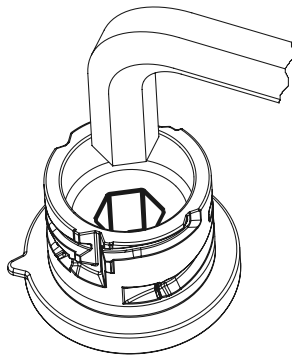

Fig.1
- 1) Screw the threaded connector by means of a hexagon key, maximum tightening torque 8 Nm (Fig. 1).